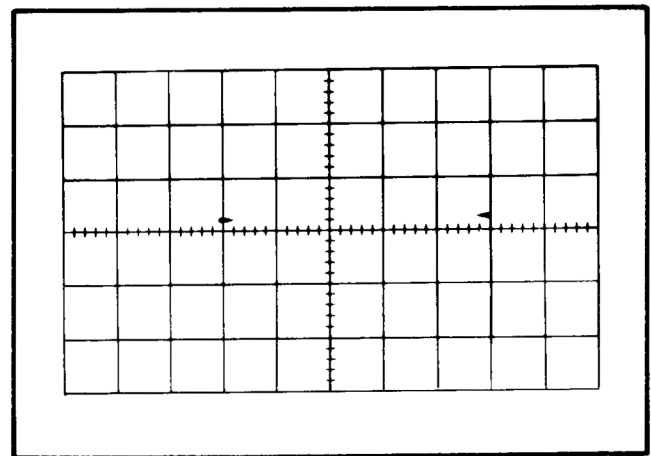

Fig. 5-26. Typical CRT display showing correct X Gain.
f. CHECK—CRT display for five divisions horizontal deflection, (see Fig. 5-26).